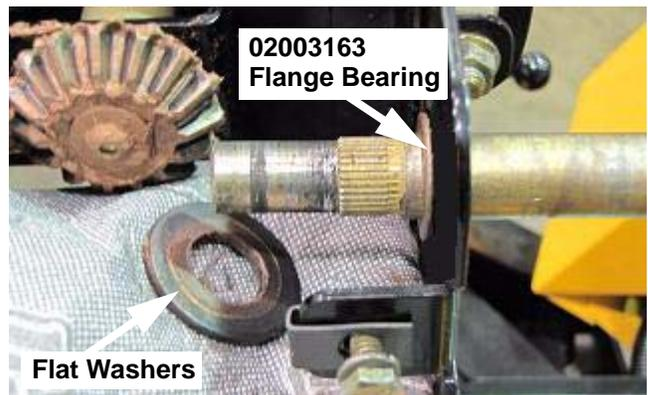

FIGURE 6
7. Pull the steering wheel and shaft from the remaining **02003163** flange bearing and catch the two (2) flat washers located on the steering shaft as it is pulled through the **02003163** flange bearing. See Figure 6.